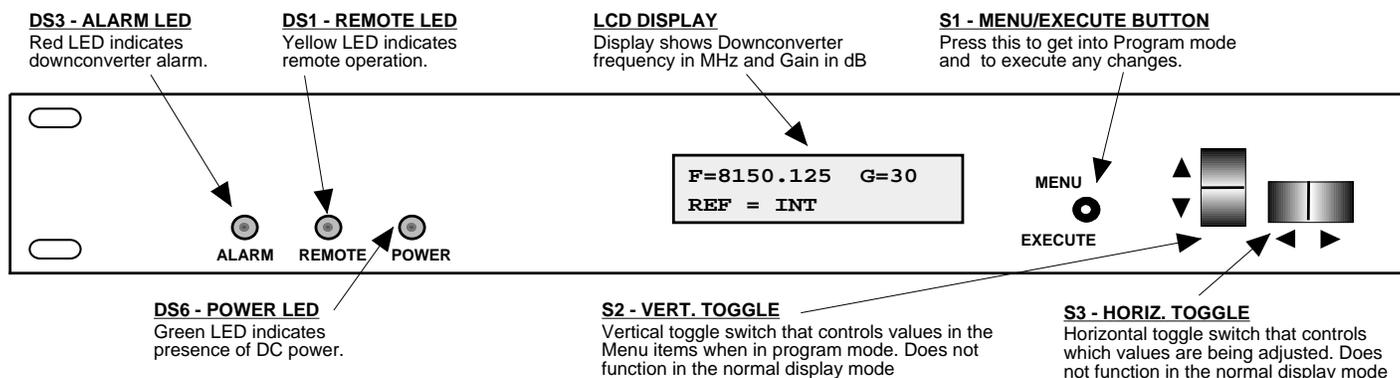

FIGURE 2.3 2016-8085-720 Front Panel Controls and Indicators
Figure 2.3 shows the front panel controls and indicators.
6. Be sure DS6 (green, DC Power) is on and DS3 (red, Alarm) is off (Figure 2.3).
Alarm indications appear on the LEDs (see figure 2.3).